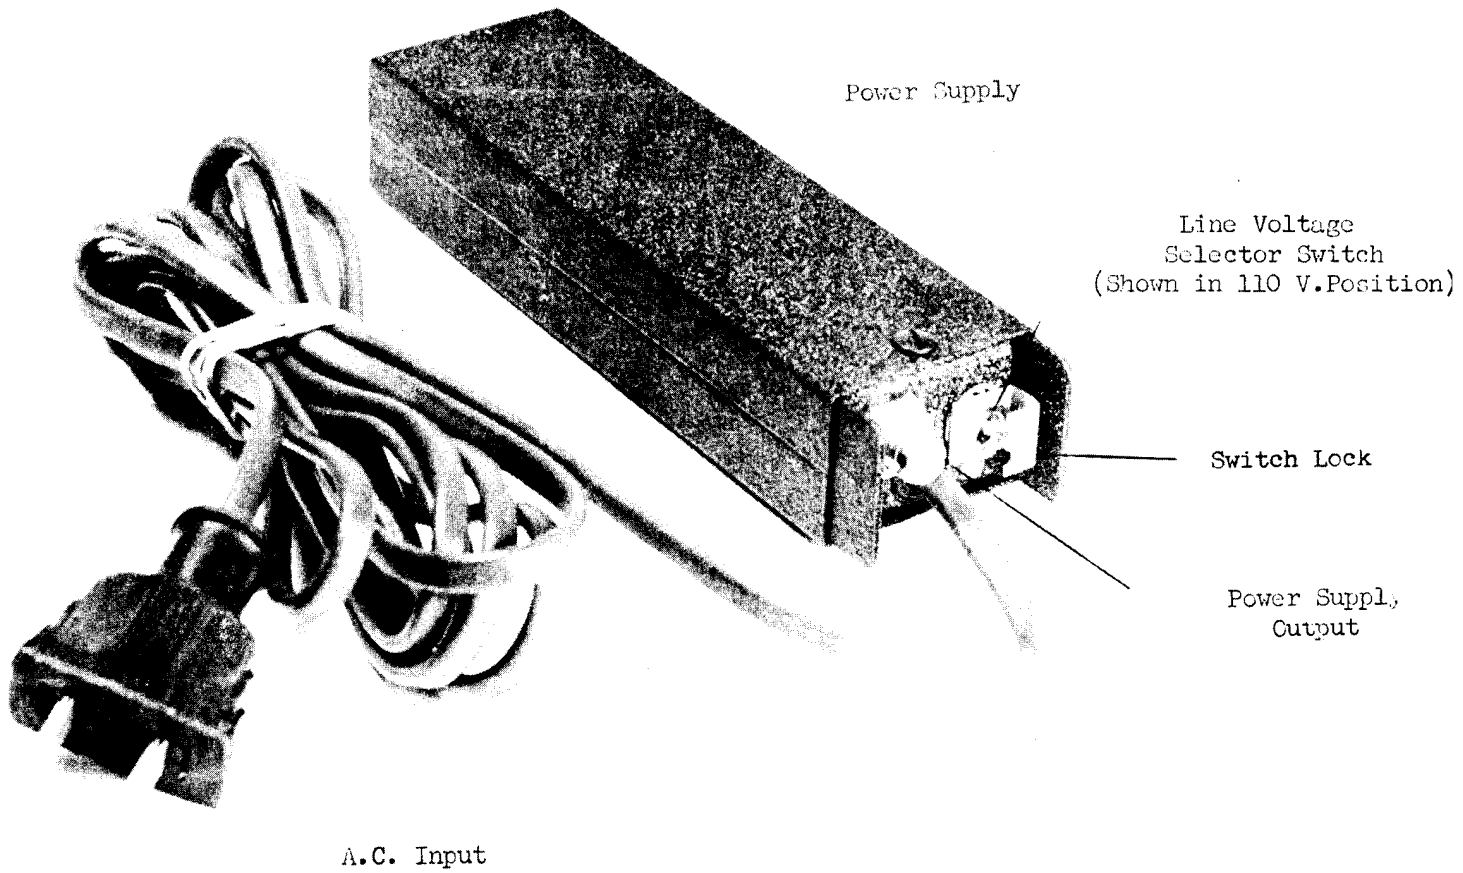

Figure II-1 POWER Supply RT-3PS
Part II of this instruction manual contains information for the operation and maintenance of the Power Supply, Model RT-3PS. The equipment is shown in Figure II-1.
The power supply RT-3PS was designed primarily for use with the transmitters, Model RT-3R and RT-3T, when a 110/220, 50-60 cps line voltage is available. This unit may be used, however, with any low-powered device, requiring -6.5 v d.c. at 15 ma, or less. The equipment is shown in Figure II-1.
2. Locate the Line Voltage Selector Switch (S-1) at the end of the unit, Figure II-1; and set it to the desired position.